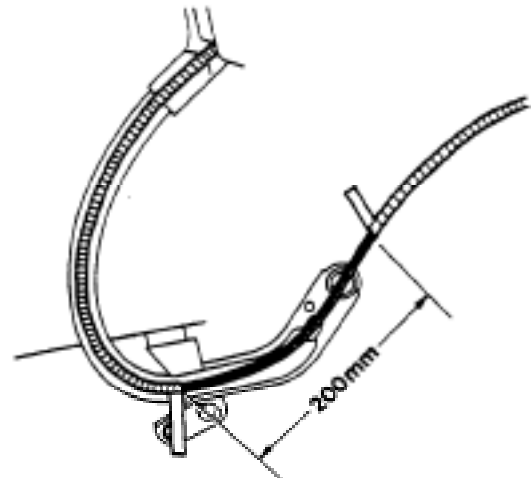

Figure 8. Stripping Off Protective Tape
8. Holding the wire outside the hinge, strip off approximately 200 mm (approximately 8 inches) of the tape or protective sheathing (see Figure 8).